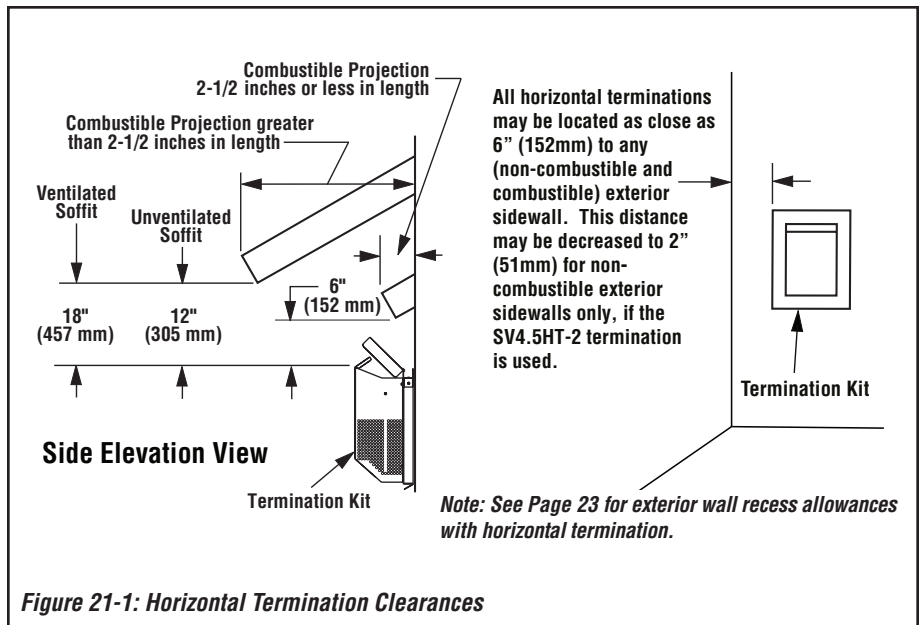

Figure 21-1: Horizontal Termination Clearances
- For projections greater than 2-1/2" (64 mm), see **Figure 21-1**.